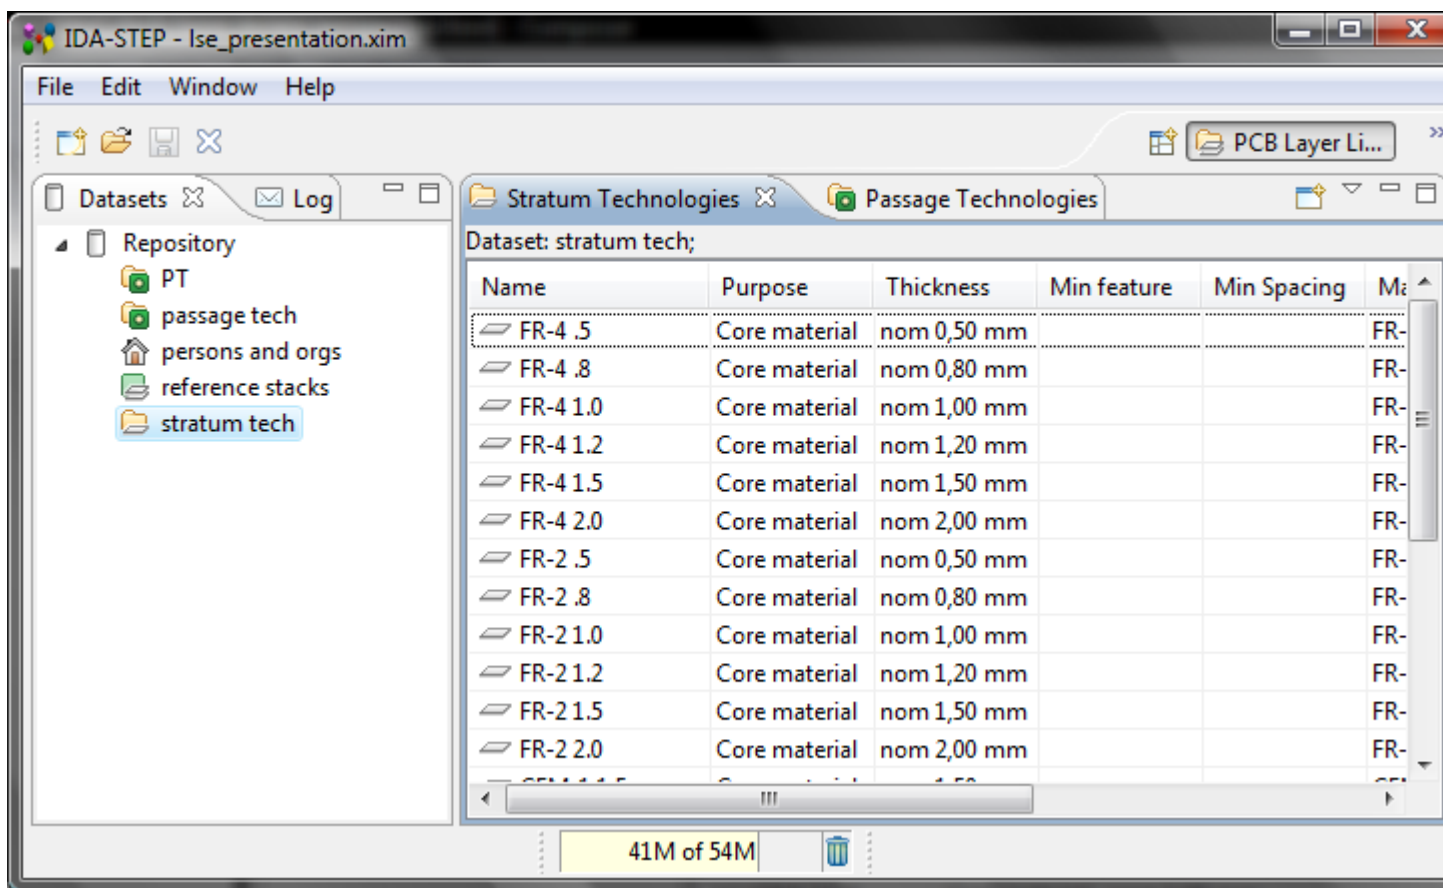

Figure 1. PCB Layer Library perspective view
The **PCB Layer Library perspective** is optimized for managing stratum and passage technologies. The perspective consist of the following views (see Figure 1):
- Selecting an applicable dataset of type *stratum technology* in the **Datasets** view activates the **Stratum technologies** view (see Figure 1).